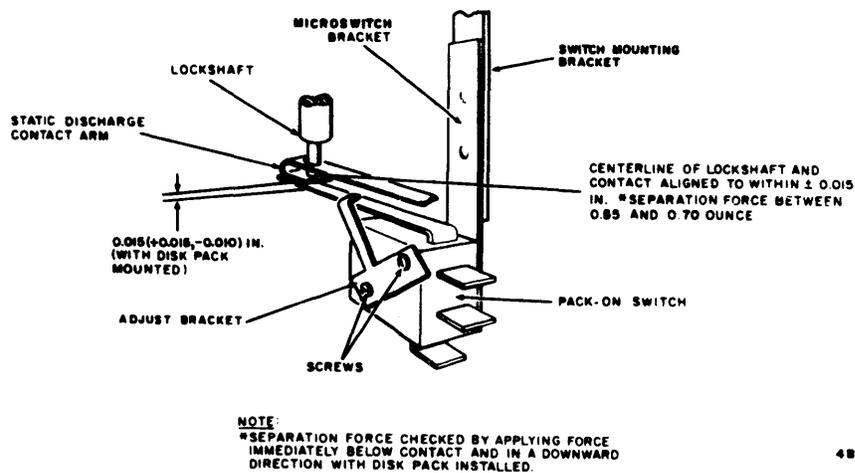

Figure 6-2. Pack-On Switch Adjustment
7. Using a feeler gage, check that the gap between the static discharge contact arm and the Pack-On switch actuator meets the requirement of Figure 6-2. Loosen the two screws securing the microswitch bracket to the switch mounting bracket and slide the bracket vertically to attain the correct dimension. Tighten the screws. Make certain that the static discharge contact is aligned to the lockshaft according to Figure 6-2. The contacts will be damaged during operation if not properly aligned.
5. Proceed to step 6 for Pack-On Switch Replacement or step 7 for Static Discharge Contact Replacement (Figure 6-2).
11. Using a feeler gage, check that the gap between the static discharge contact arm and the Pack-On switch actuator meets the requirement of Figure 6-2. Slide the microswitch bracket vertically to attain the correct dimension. Tighten the screws.
12. Use a push-pull gage (12210797) to check that the force required to separate the contacts is as shown on Figure 6-2. If the separation force exceeds the maximum allowable, add shims as required between the ground mounting standoff and the contact arm. Shim part numbers are available in Illustrated Parts List.